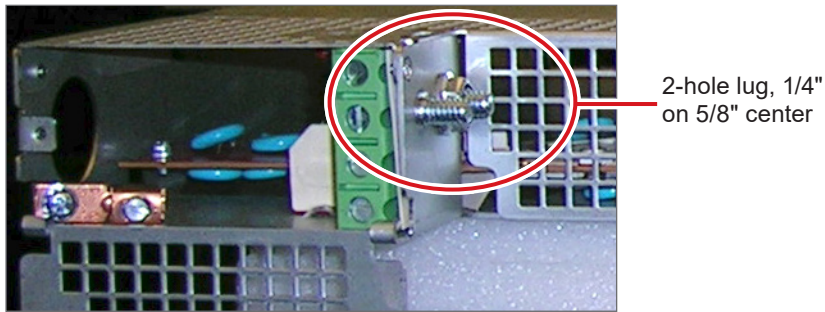

Figure 7 — Chassis Ground
2. Connect the shelf chassis ground (Figure 7) to the rack. On the rack, use thread-forming screws and star washers that remove any paint or non-conductive coatings and establish metal-to-metal contact to ensure a proper electrical bond.